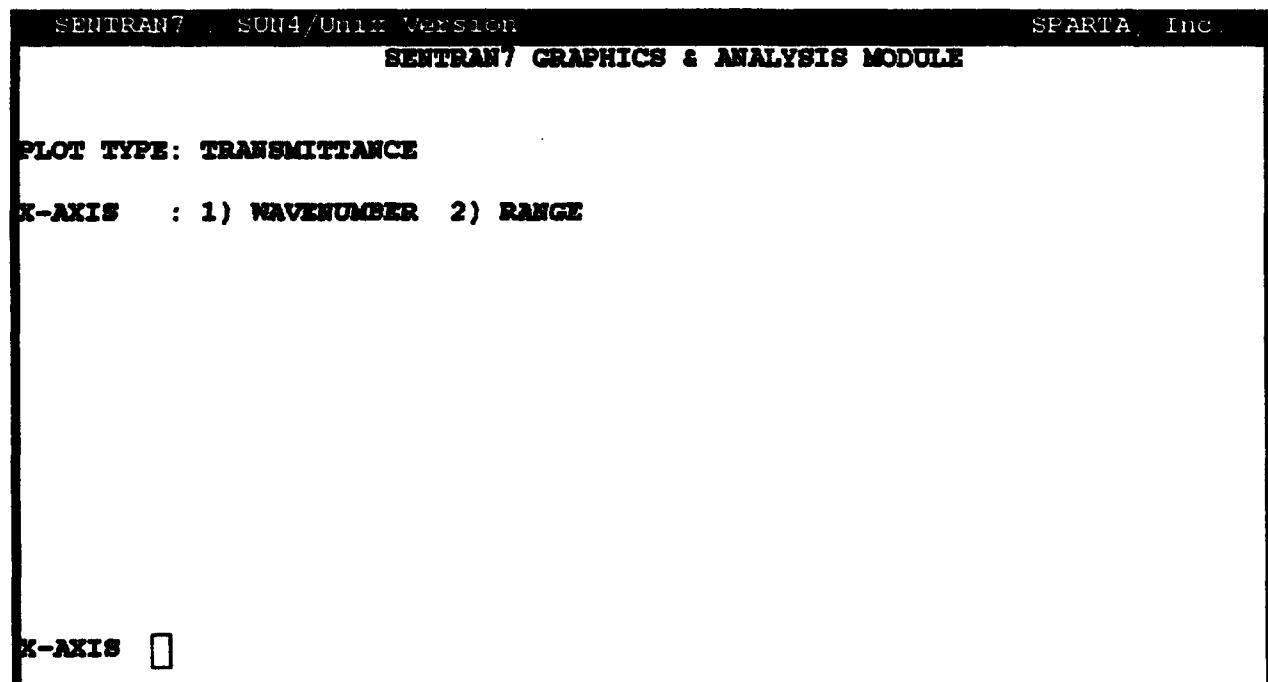

Figure 62. Screen Prompt Displayed Showing the Choices for the X Axis Parameter
- 2) We would like to plot a transmittance profile (specifically total transmittance), so in response to the prompt for a plot type, enter a '2'. Figure 62 shows the following screen that will appear. This screen prompts the user for the *x* axis parameter.